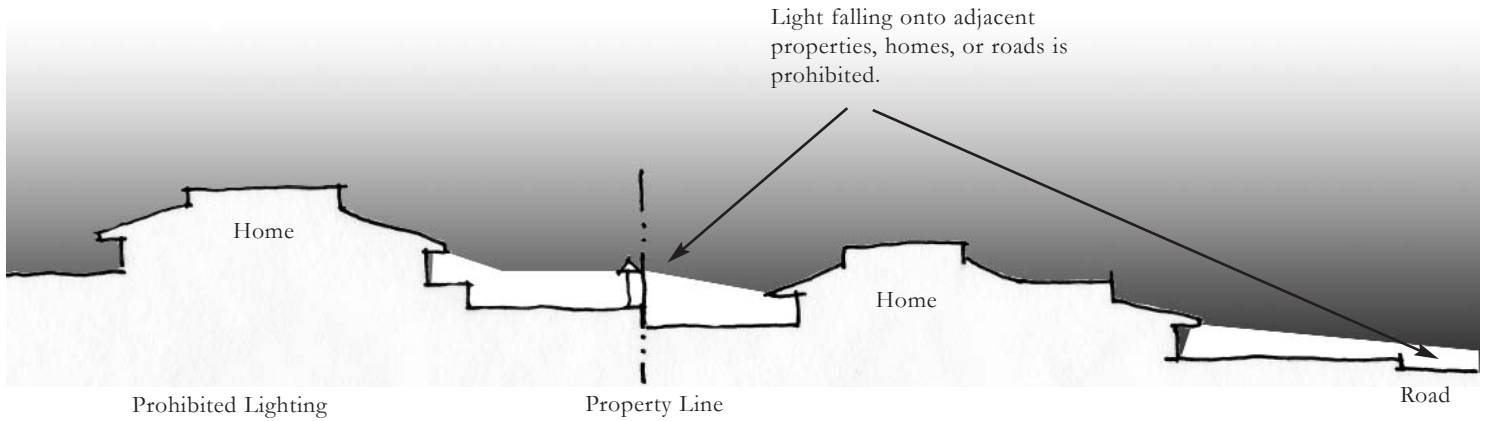

Figure 2.14a - Lighting Concepts
- Site lighting that spills over onto adjacent sites, homes, or roads are prohibited. See Figure 2.14a.